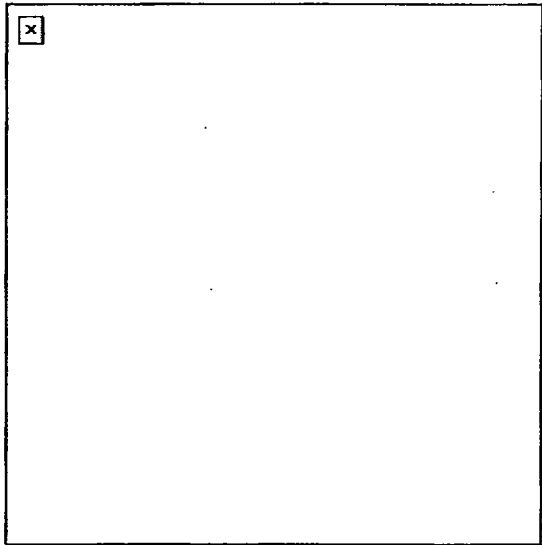

Figure 4. Charging the MK 19 machine gun.
4. Charge the weapon (Figure 4).